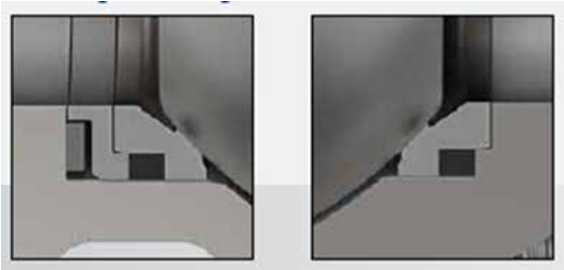

Figure 6
15. Insert S-ring (#42) into the body part (#1) over the wave spring (#41). Keep orientation of S-ring as shown in Fig.6.